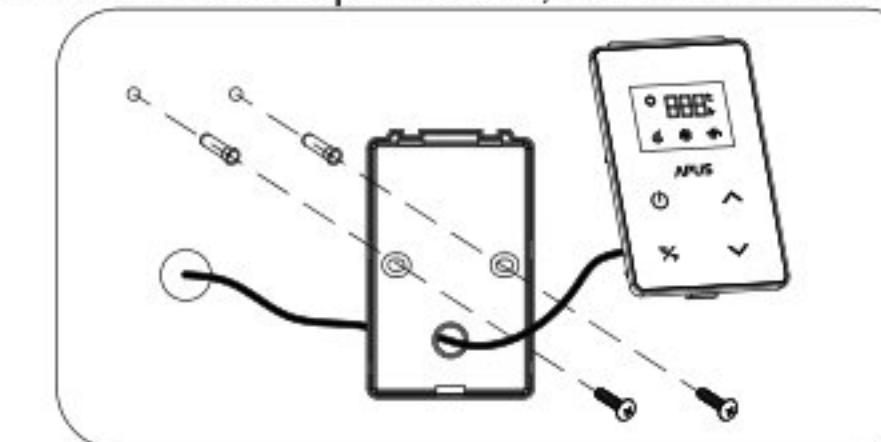

Figure 15
- Fix the wired controller to the wall with screws. If unable to fix it directly with screws, please drill two holes with diameter 6mm and depth 35mm, then install wall anchors and screws as Figure 15